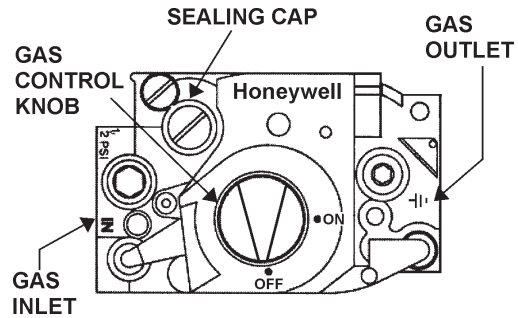

FIGURE 14
Figure 14 shows the type of combination manual gas control valve and regulator used on these heaters.
3. Remove the regulator adjustment sealing cap, fig. 14, and adjust the pressure by turning the adjusting screw with a screwdriver.